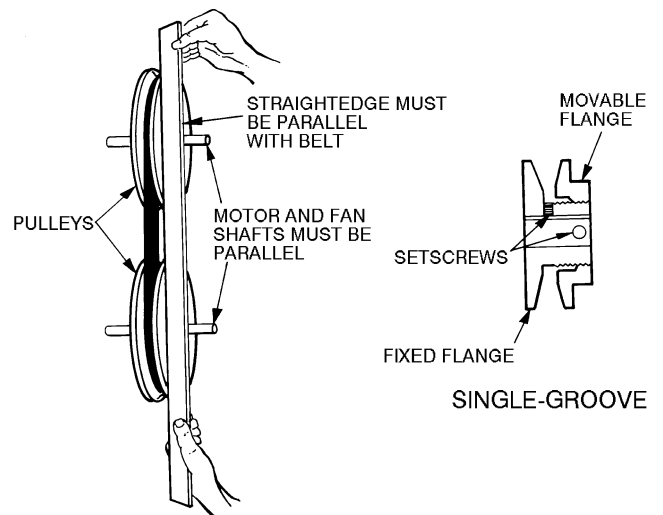

Fig. 37 — Evaporator-Fan Pulley Adjustment
3. Loosen movable pulley flange setscrew (see Fig. 37).
3. Adjust bolt and nut on mounting plate to secure motor in fixed position. See Fig. 37.